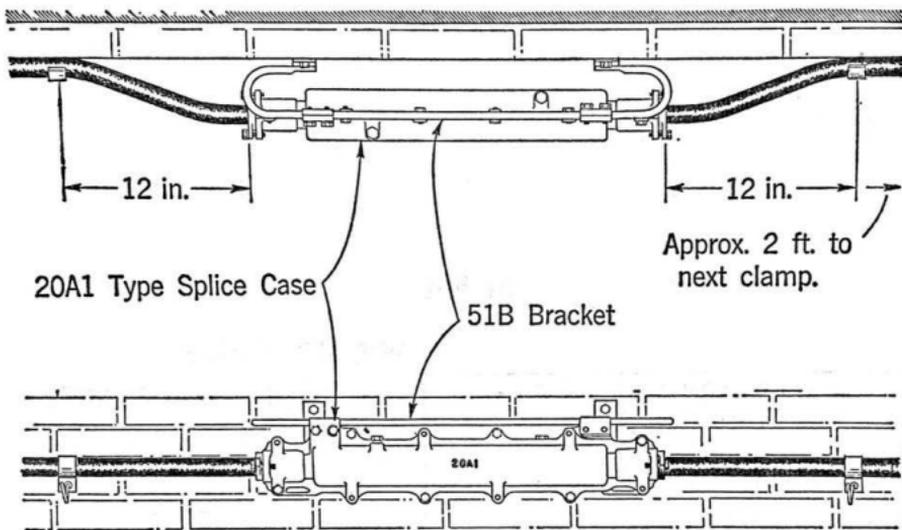

Fig. 17
5.02 Fig. 17 illustrates the mounting of a splice case using the 51B Bracket.